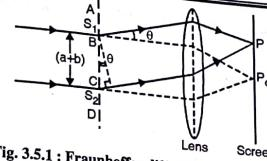

Fig. 3.5.1 : Fraunhofer diffraction at double slit
- Consider a beam of monochromatic light of wavelength λ incident normally on two narrow slits AB and CD as shown in Fig. 3.5.1. Let 'a' be the width of each slit and 'b' be the width of opaque space BC separating the two slits such that a and b are comparable.
- From Fig. 3.5.1, the path difference between the waves from S_1 and S_2 at P is,